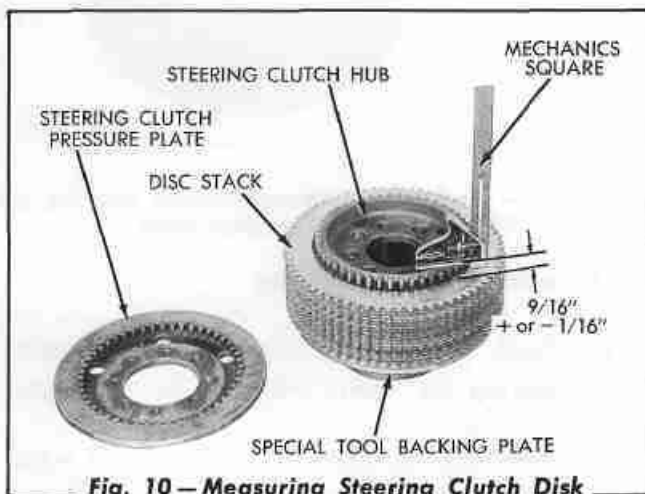

Fig. 10 — Measuring Steering Clutch Disk Stack Height
- Stack the clutch discs (17 each — Friction and Steel) alternately on the clutch hub, beginning with a friction disc next to the back plate. Check the stack height of the discs as shown in Fig. 10; the top disc should be $\frac{9}{16}$ " + or - $\frac{1}{16}$ " below the top of the steering clutch hub.